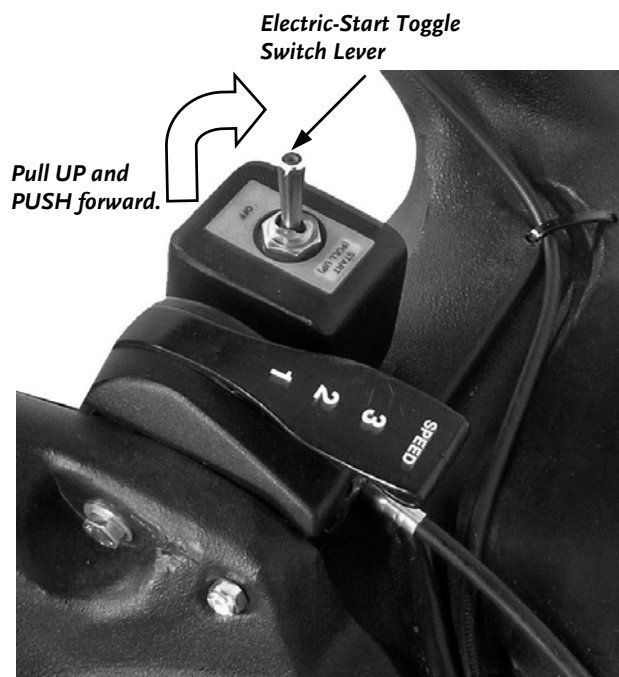

Figure 12
3. Pull UP on the Electric-Start Toggle Switch Lever and PUSH forward (**Figure 12**) to the START position until the engine starts, then release. The Switch Toggle Lever will snap back to the center position and the engine will continue to run.